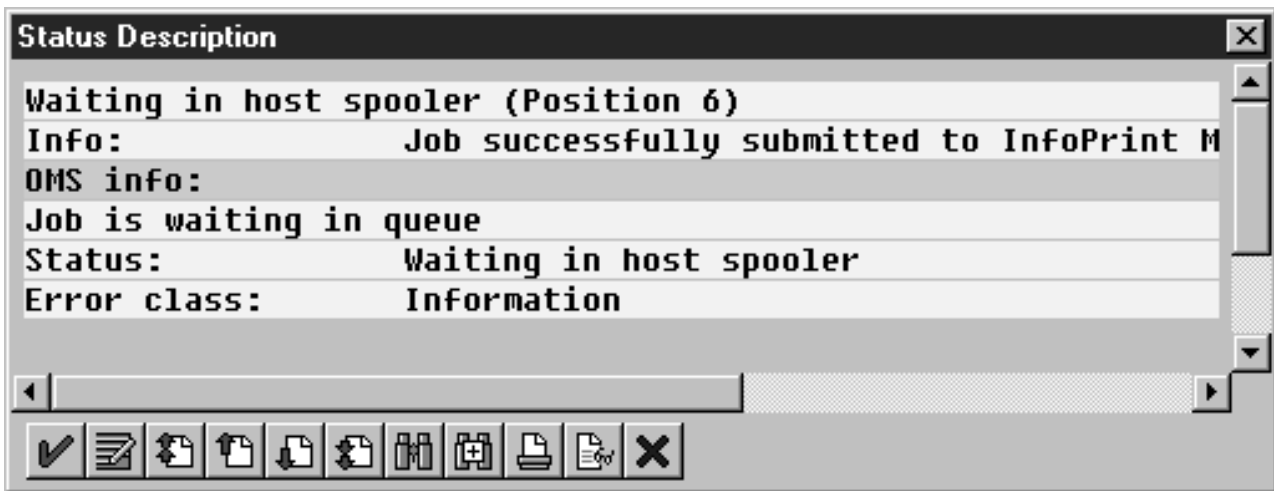

Figure 19. Status Description window (response to query)
- From the Status Description pop-up window, you can also click on the **Query** button and issue a query to return the current information for a job, including its position in the queue. For example, Figure 19 displays the result of a query for a job that has been successfully submitted for printing. Notice that the first line shows the job's position in the print queue.